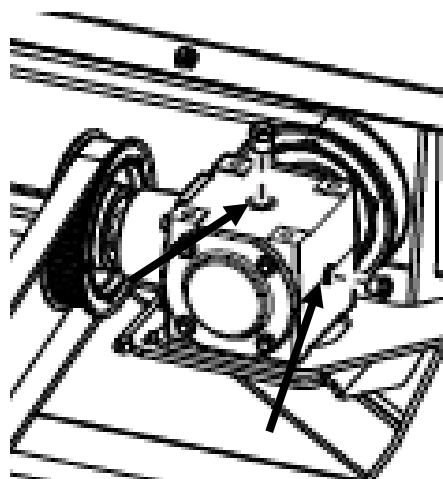

Figure 93
5. Fill the gearbox with 75W90 oil. Remove the plug on the top of the gearcase and fill until oil comes out the side plug. Figure 93